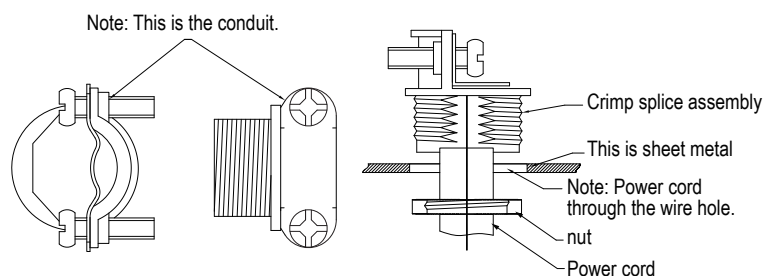

Fig 4 Wire Clamp Detailed A
- 4- Lock the wire loom tubing on the electrical installation board with the wire clamp or fix the leads with other fasteners according to the application, see Fig 4.